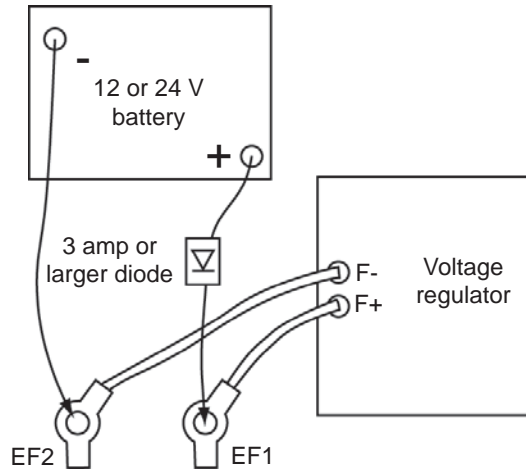

Figure 12: Field flashing setup with the field wires connected to the regulator
6. Start the generator, and check for voltage build up. Reflash if the generator output voltage does not build up, or flash with the generator running, the field coil wires connected to the regulator, and a 3-amp or larger diode off the positive terminal of the battery per Figure 12.